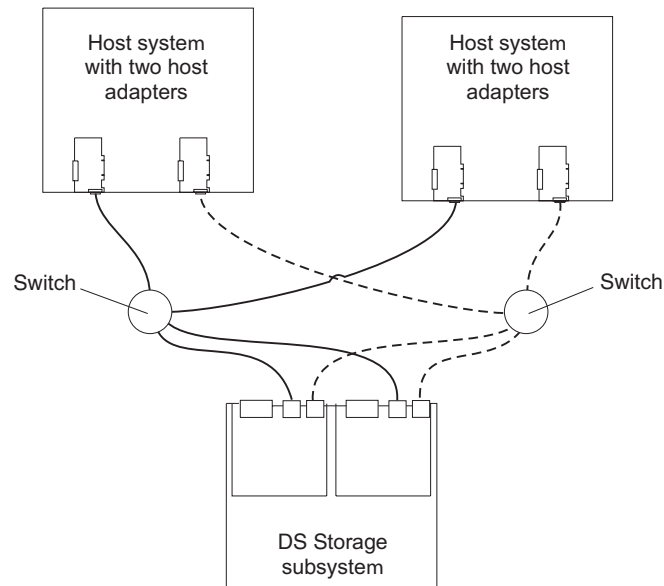

Figure 57. Example of a dual SAN fabric configuration
- Dual SAN fabric configuration, as shown in Figure 57 on page 87
In Figure 57 on page 87, the Fibre Channel switches are connected together via the inter-switch link (ISL) to form a dual SAN fabric.